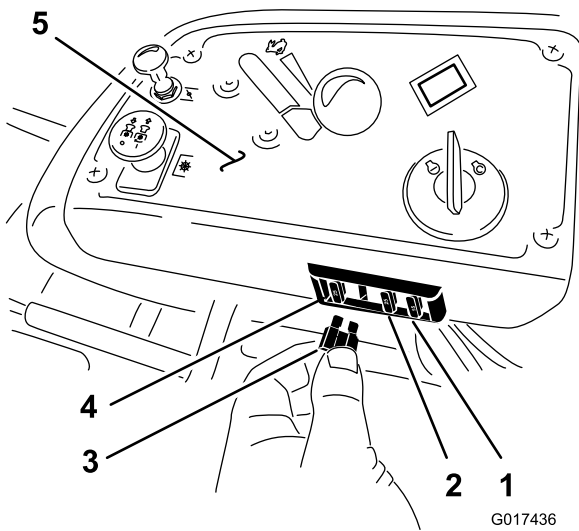

Figure 53
1. The fuses are located on right hand console next to the seat (Figure 53).
3. Install a new fuse (Figure 53).